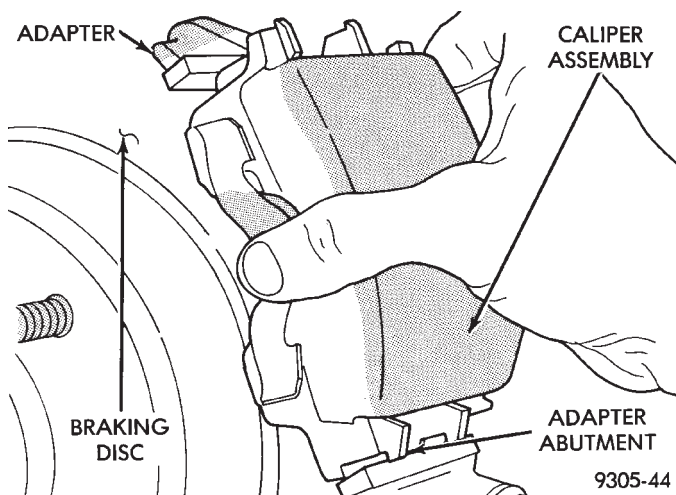

Fig. 47 Removing / Installing Caliper Assembly
(4) Remove caliper from adapter using following procedure. First rotate top of caliper away from adapter. Then lift the caliper off the bottom abutment on the adapter (Fig. 47).
(4) Carefully lower caliper and brake shoes over rotor and onto the adapter using the reverse procedure for removal (Fig. 47).